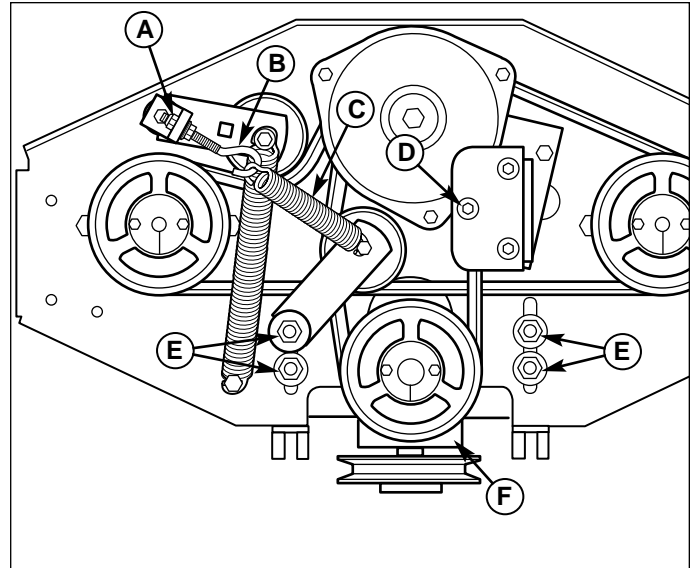

Figure 40. Clutch Belt Removal & Replacement
5. Remove the nylon lock nut (A, Figure 40) to release the belt tension and unhook the clutch belt idler spring (C) from the screw hook (B). Set the screw hook aside.
6. Remove the 5/16" bolt, washers and nut (D) that fasten the rubber pad to the clutch and unplug the clutch from the electrical harness. Note the order that the hardware is oriented before removing.
7. Loosen the four (4) nylon lock nuts (E) that mount the gear box to the pump plate.
8. Pushing upward on the gearbox (F), remove the clutch belts from the gearbox pulley grooves.